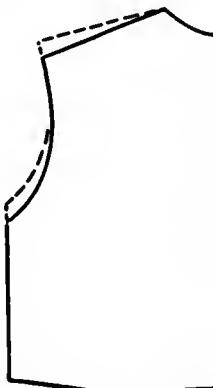

Fig. 36. For square shoulders.
- C. For square shoulders: Add to the shoulder tip by tapering from the neckline edge. Add to the underarm seam to compensate (Fig. 36).